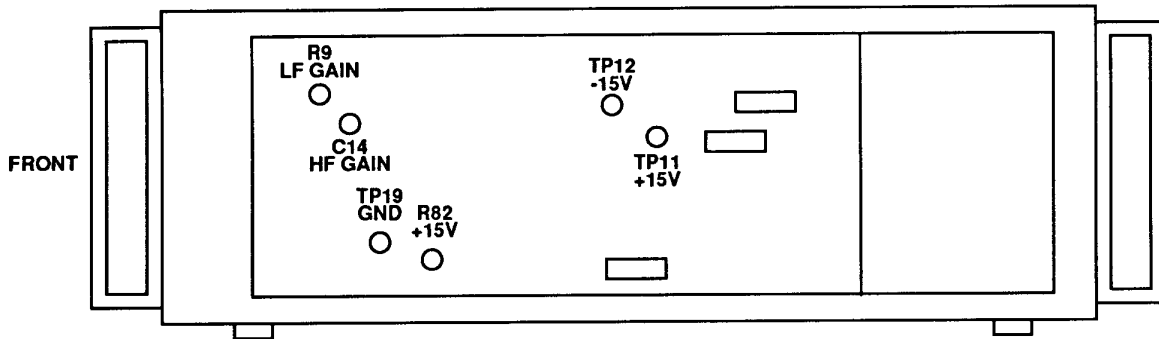

Figure 3. Precision power amplifier, Fluke, Model 5215A - adjustment locations.
- (1) Adjust R9, LF GAIN (fig. 3) for TI measured output of 500 Vac (R).
- (2) Adjust C14, HF GAIN (fig. 3) for TI measured output of 500 Vac (R).
- (1) Adjust R9, LF GAIN (fig. 3) for best null indication on multimeter (R).
- (2) Adjust C14, HF GAIN (fig. 3) for best null indication on multimeter (R).
(1) Connect multimeter between TP11 +15V and TP 19 GRD (fig. 3). If multimeter does not indicate between 14.95 and 15.05 V, perform **b** below.
(2) Connect multimeter between TP 12 - 15 V and TP 19 GND (fig. 3). Multimeter will indicate between -14.65 and -15.35 V.
b. Adjustments. Adjust R82 +15V (fig. 3) for a multimeter indication between +14.95 and 15.05 V dc (R).